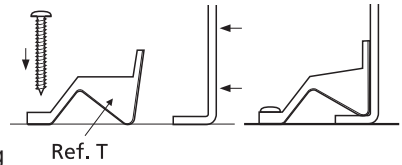

Fig. 7
15. Pre fit front panel ensuring that the ends of the panel are vertical. Mark a line along the front of the panel on the floor. Remove panel and fix the plastic panel clips (Ref. T) onto the floor/wall(s) (Figure 7). The front of the block at the floor should be 3mm back from the marked line.